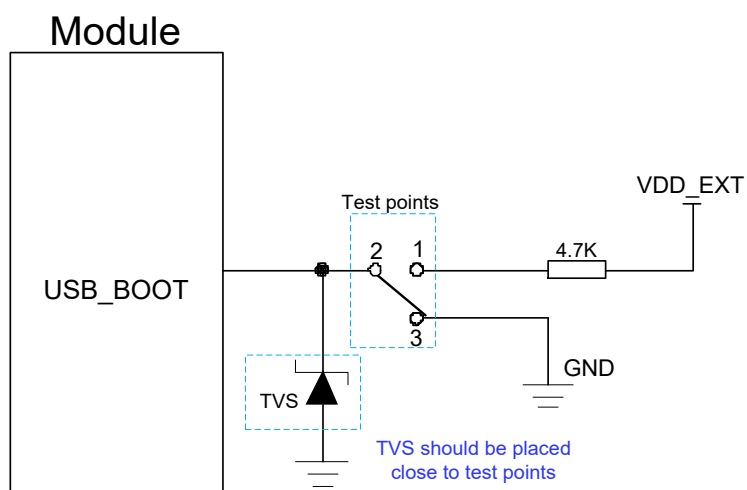

Figure 19: Reference Design of Forced Download Interface
3. If you need to manually force the module to enter forced download mode, directly connect the test points shown in **Figure 19**.